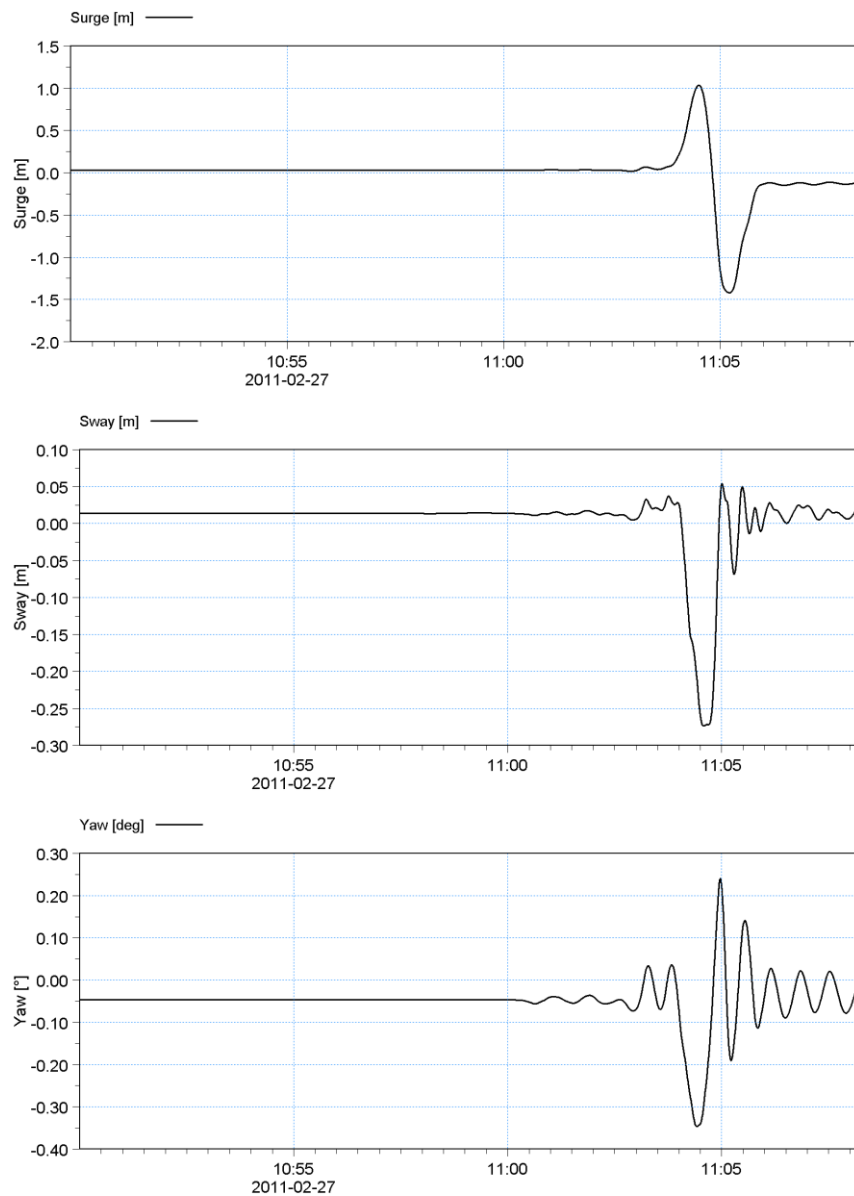

Figure 3.24 Passing vessel induced moored vessel motions - surge, sway and yaw
15. Open the newly created *Vessel1_motions.dfs0* file and plot the *Surge, Sway and Yaw motions*. You should see that the vessel is stable until around 11:05 when the passing vessel generated displacement waves arrive at the berth and induce a large surge motion of the moored vessel. Motions in the other degrees of freedom are relatively small. Your plotted surge, sway and yaw motions should appear as shown in Figure 3.24.